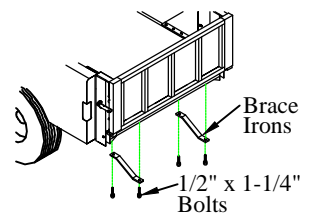

Figure 16: Lower brace iron location.
- Bolt** the two (2) brace irons to the bottom of the liftgate using 1/2" x 1-1/4" bolts, washers, and lock washers (Figure 16).